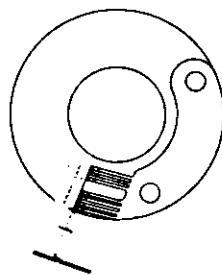

Fig. 47
- (C) ASA contact assy (Fig. 47).